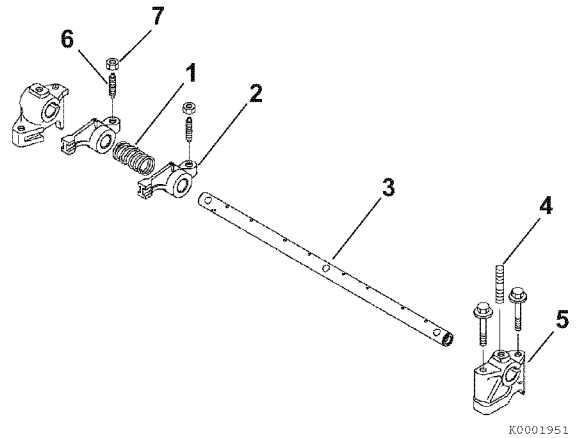

Figure 6-8
1. Remove the rocker arm shaft alignment stud (Figure 6-8, (4)) from support (Figure 6-8, (5)).
2. Slide the rocker arm shaft (Figure 6-8, (3)) out of the rocker arm supports (Figure 6-8, (5)), springs (Figure 6-8, (1)), and rocker arms (Figure 6-8, (2)).
3. Remove the valve adjusting screw (Figure 6-8, (6)) and the lock nut (Figure 6-8, (7)) from the rocker arms.